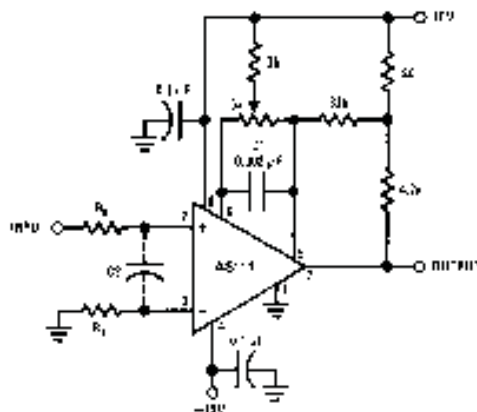

FIGURE 1. Improved Positive Feedback
However, when the input signal is a voltage ramp or a slow sine wave, or if the signal source impedance is high (1 k Ω to 100 k Ω), the comparator may burst into oscillation near the crossing-point. This is due to the high gain and wide bandwidth of comparators like the AS111. To avoid oscillation or instability in such a usage, several precautions are recommended, as shown in Figure 1 below.
inputs. If these pins are not connected to a trim-pot, they should be shorted together. If they are connected to a trim-pot, a 0.01 μF capacitor C1 between pins 5 and 6 will minimize the susceptibility to AC coupling. A smaller capacitor is used if pin 5 is used for positive feedback as in Figure 1.
7. When both inputs of the AS111 are connected to active signals, or if a high-impedance signal is driving the positive input of the AS111 so that positive feedback would be disruptive, the circuit of Figure 1 is ideal. The positive feedback is to pin 5 (one of the offset adjustment pins). It is sufficient to cause 1 to 2 mV hysteresis and sharp transitions with input triangle waves from a few Hz to hundreds of kHz. The positive-feedback signal across the 82Ω resistor swings 240 mV below the positive supply. This signal is centered around the nominal voltage at pin 5, so this feedback does not add to the V_{OS} of the comparator. As much as 8 mV of V_{OS} can be trimmed out, using the $5\text{ k}\Omega$ pot and $3\text{ k}\Omega$ resistor as shown.